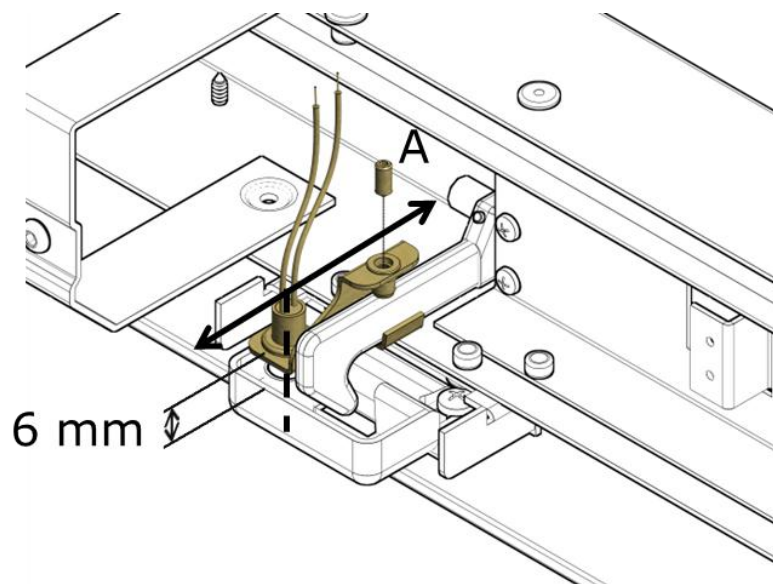

Figure 4-1
3. Release the screw (A) and adjust the position of the closing limit switch magnet along the indicated direction (Figure 4-1) and align magnet along dashed line. Check magnet distance too.